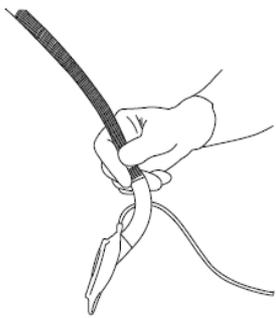

Figure 4: Hold the device in position
2. Hold the device in position. (Fig. 4)